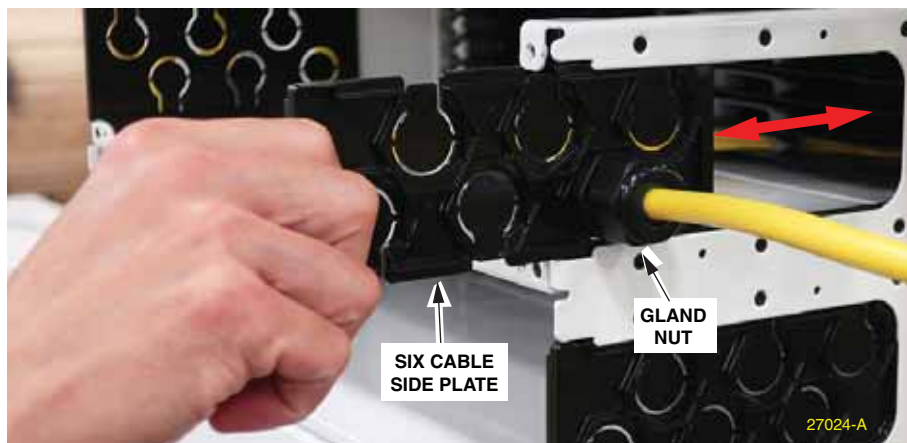

Figure 21. Sliding Side Plate Into Panel
6. Tighten nut to side plate. Slide side plate into panel. See Figure 21.